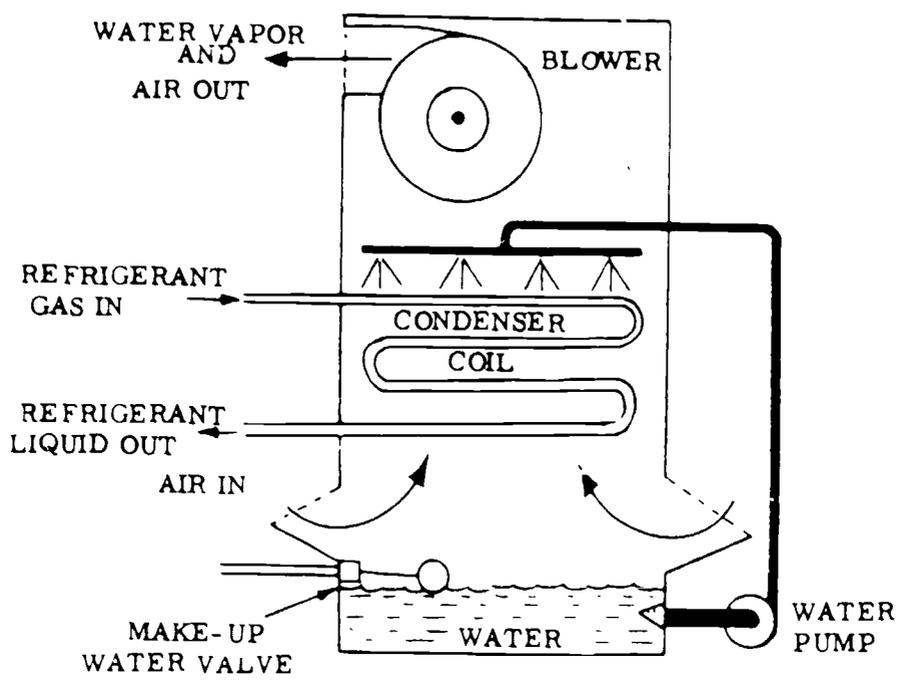

Figure 12. Evaporative Condenser
**EVAPORATIVE CONDENSER.** The evaporative condenser is cooled by water sprayed directly over the condensing coils. The evaporated water carries away the heat of condensation. The remaining water drops to a sump under the condenser where it is recirculated by a pump. A fan draws air over the condenser coils to increase the cooling capacity. Each pound of water evaporating on the condenser removes 970 BTUs of heat from the refrigeration system. (See figure 12.) The evaporative condenser is designed to be used where the temperature varies from very hot to very cold in a year's time.